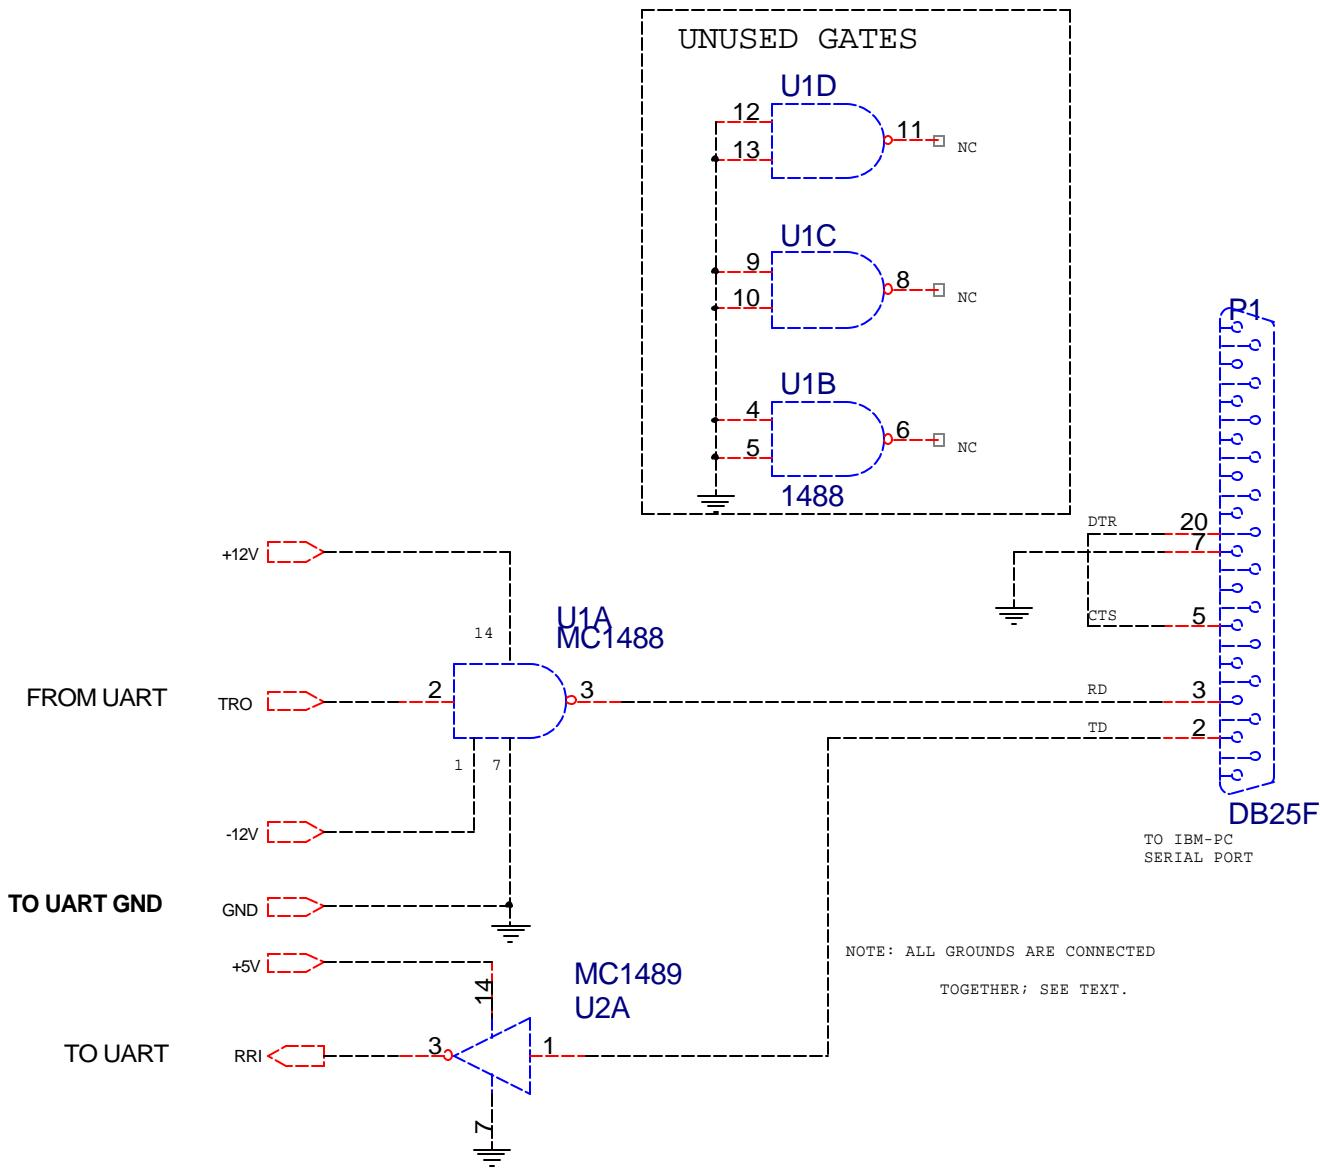

Figure 1: RS232 Interface
Figure 1 shows the circuitry needed to make the UART "talk" with the PC. The design is very simple, as you can see. Two IC chips, the Motorola MC1488 and MC1489, do all the work.
1. Build the circuit of Figure 1, but don't connect it to the UART or IBM-PC yet. Apply the three power supplies (+5, -12, and +12 Volts.)